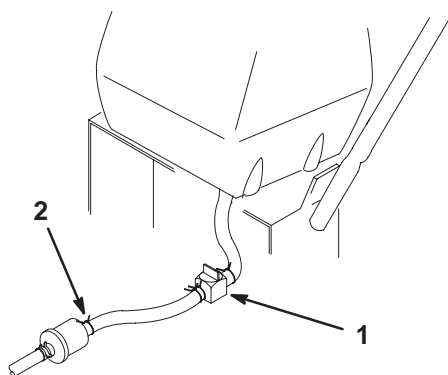

Figure 42
2. Close the fuel shut-off valve at the fuel tank (Fig. 42).
3. Squeeze the ends of the hose clamp together and slide it up the fuel line away from fuel filter (Fig. 42).
4. Pull the fuel line off the fuel filter (Fig. 42). Open the fuel shut-off valve and allow the gasoline to drain into a gas can or drain pan.
3. Close fuel shut-off valve at fuel tank (Fig. 42).
7. Open fuel shut-off valve at fuel tank (Fig. 42).